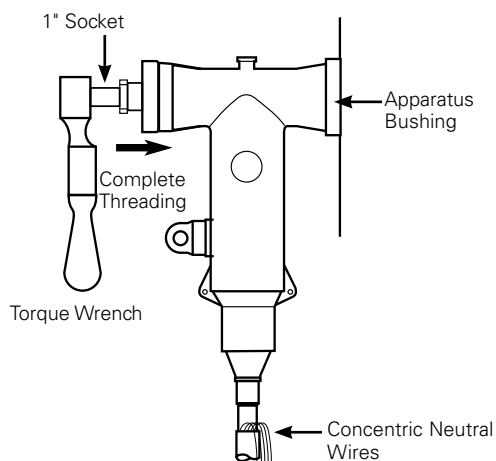

Figure 28. Line illustration of tightening termination.
- Using a torque wrench and 1" socket complete threading clockwise until tight. Torque to 55 ft-lbs. See Figure 28.